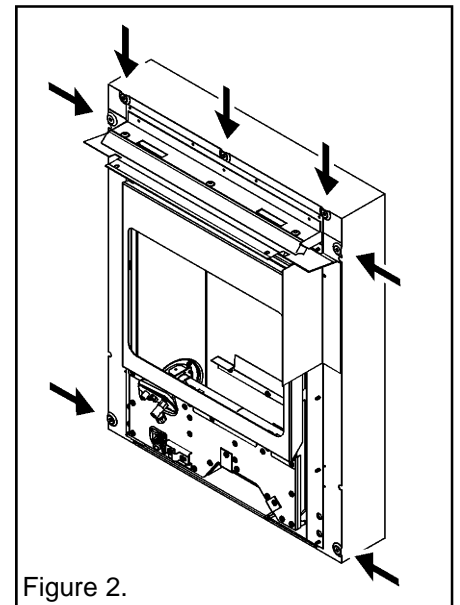

Figure 2.
10. Secure the appliance engine to the spacer frame with the seven tapping screws supplied with the kit (See figure 2).